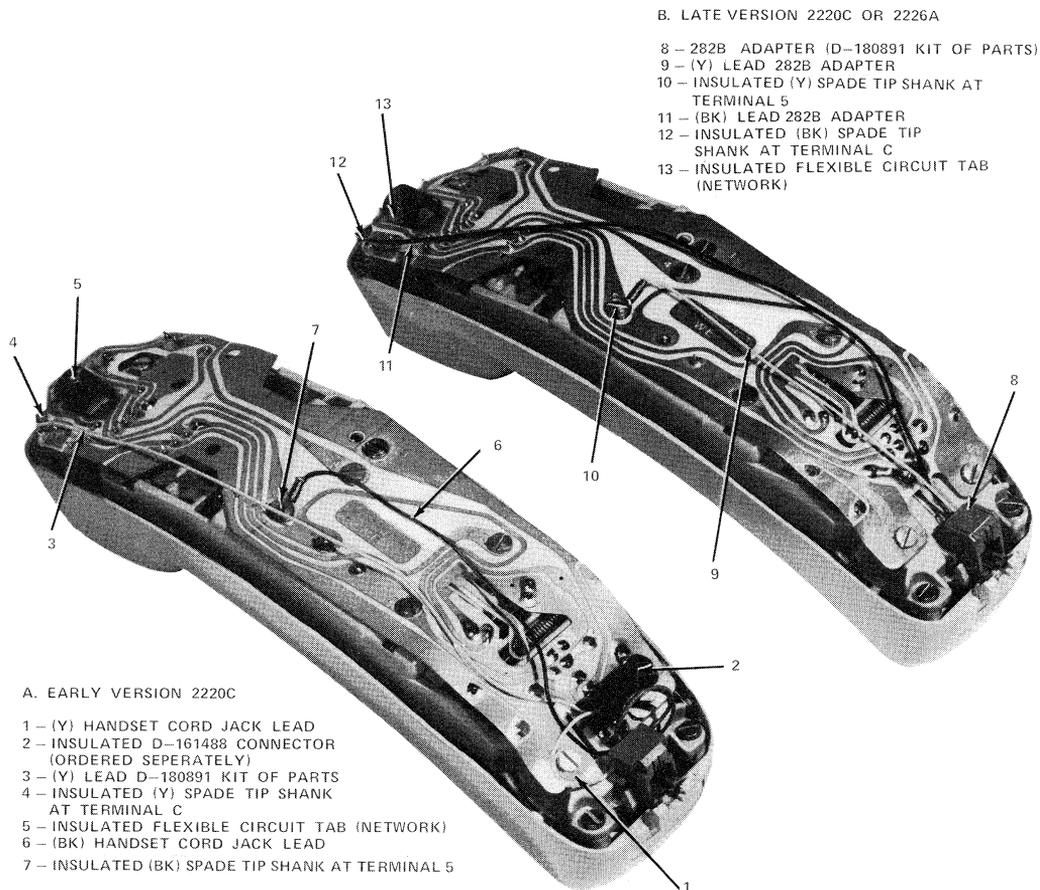

Fig. 10—2220C or 2226A Hand Telephone Set Modified for RFI
**B. D-180891 Kit of Parts (2220C and 2226A only) RFI Modification (Fig. 10)**